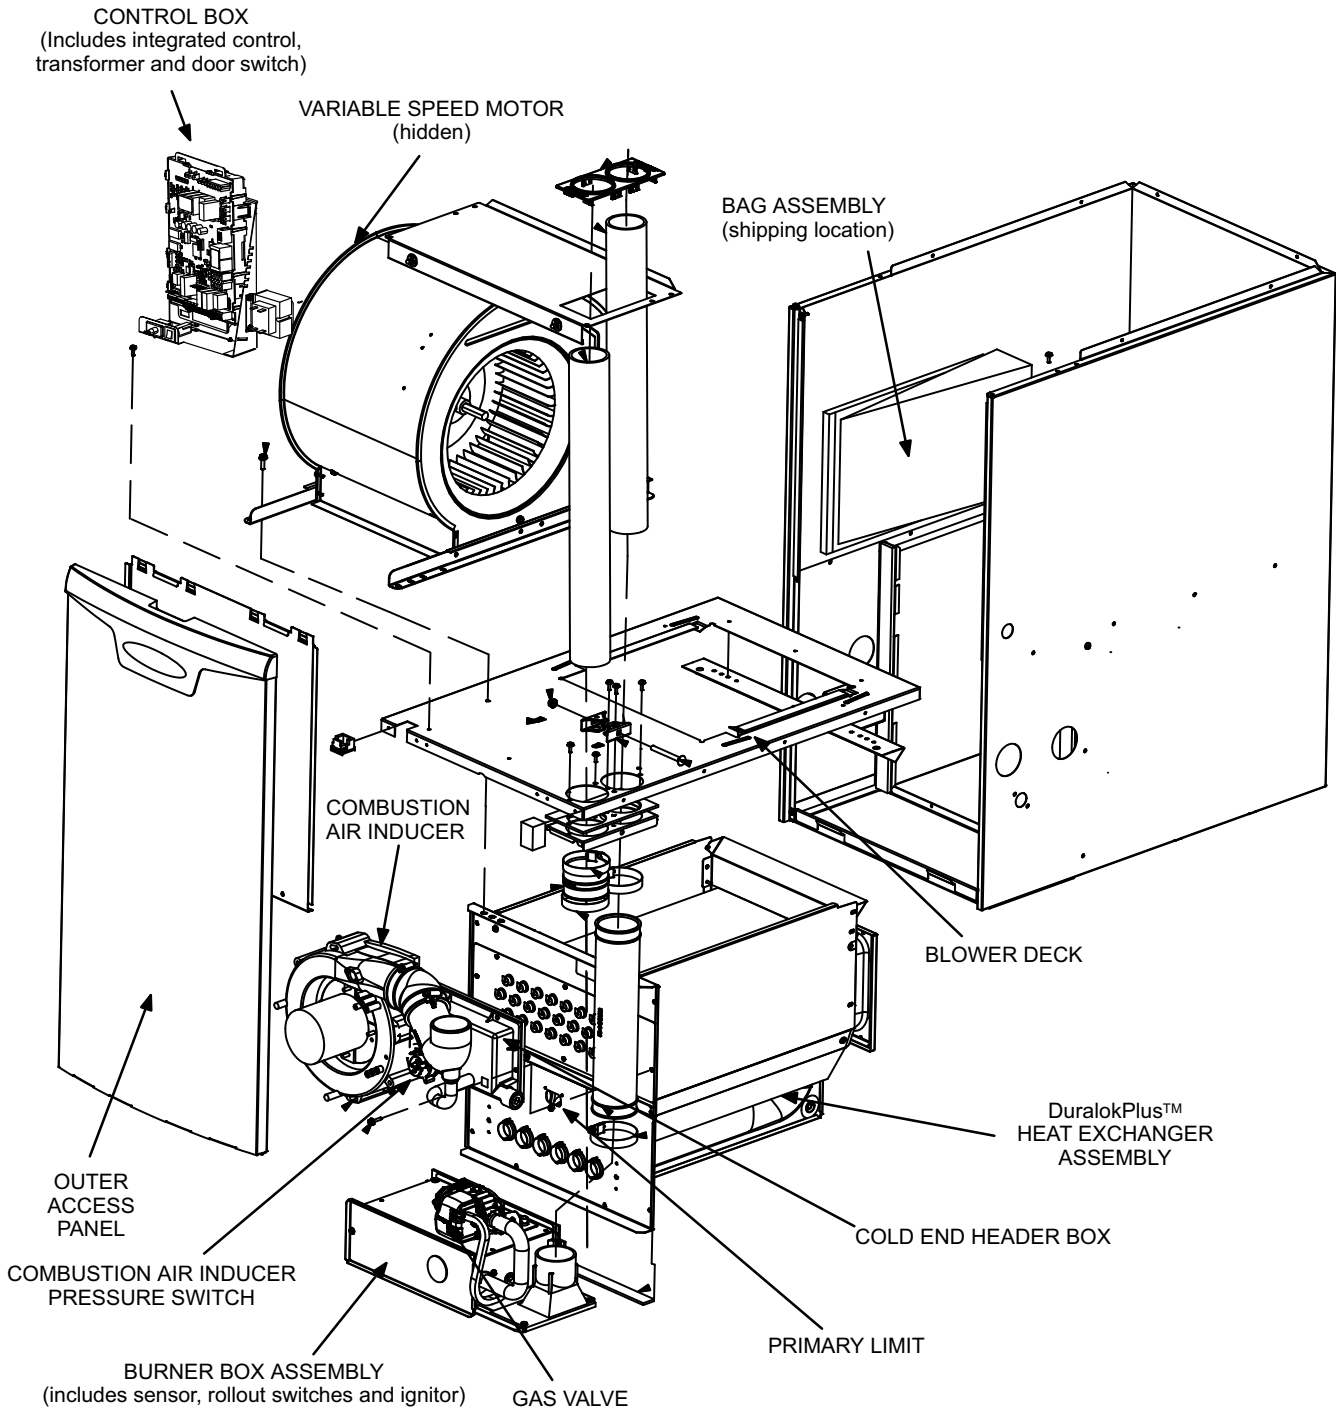
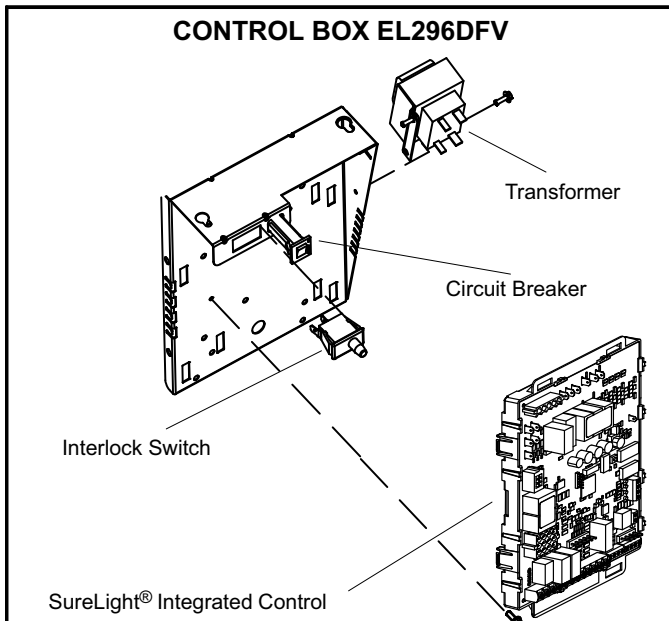

FIGURE 1
FIGURE 2
EL296DFV(X) unit components are shown in figure 1. The gas valve, combustion air inducer and burners can be accessed by removing the access panel. Electrical components are in the control box (figure 2) found in the blower section.